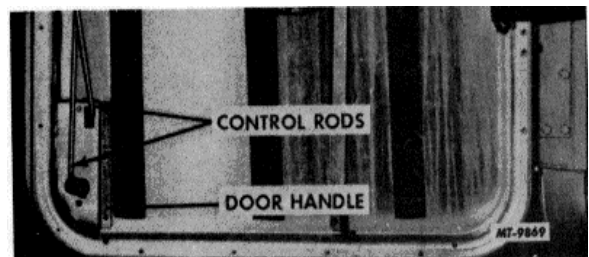

Fig. 22
2. Disconnect door lock remote control rods from outside door handle, Fig. 22.
2. Remove door lock remote control rods from door handle, Fig. 22.
3. Remove two nuts and washers securing outside door handle to mounting bracket, Fig. 22.